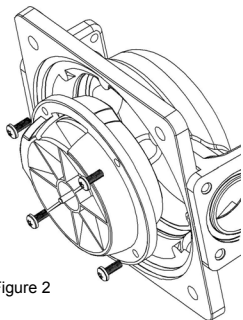

Figure 2
The Meter Chamber consists of upper and lower chambers, a nutating disc, and four screws (figure 2).
- 2) The meter chamber can be dislodged by removing the 4 screws (see figure 2).